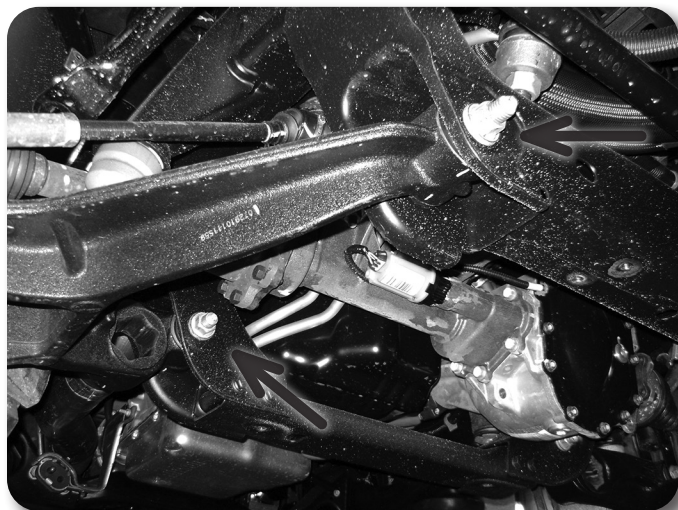

Figure 14
23. Remove the front and rear lower control arm bolts and remove the control arms from the vehicle Figure 14 Save the control arms and mounting hardware.